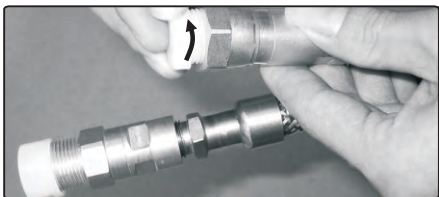

Fig.25.2
2. Do not remove the plastic seals from the outdoor unit and the appropriate refrigerant pipes until immediately before you connect them, Fig.25.2